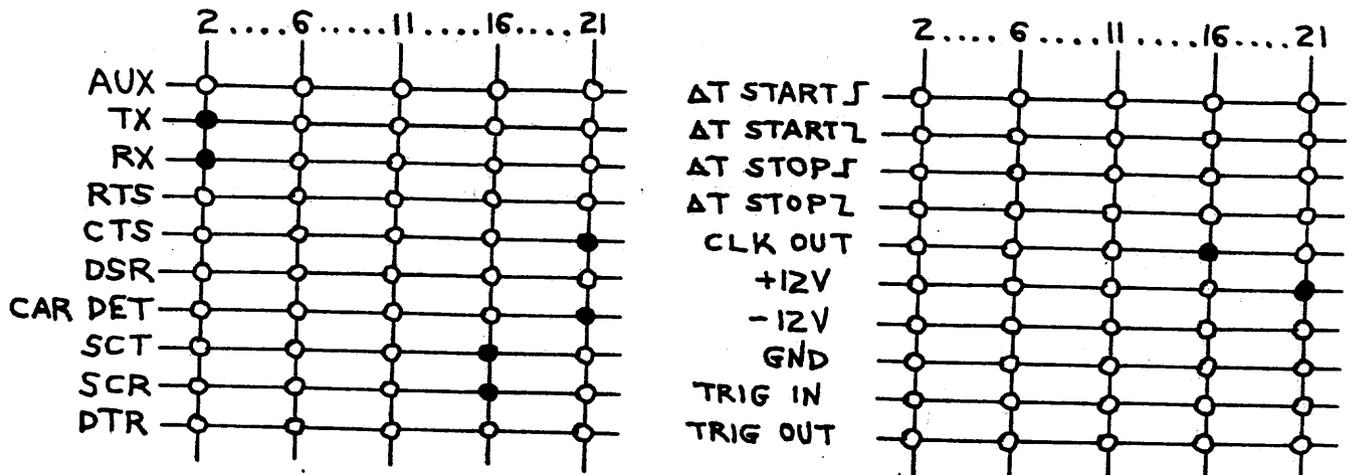

Figure 3. Matrix Board Pin Configuration.
19. The 1640A Matrix Board is configured by means of jumper pins into a loop-around mode whereby the 1640A "talks to itself." An abbreviated SDLC data stream is entered in the transmit (TX) buffer from the keyboard. As this SDLC message is transmitted, the 1640A computes the Frame Check Sequence (FCS) characters and inserts them in the FCS field of the transmitted data frame. The received (RX) data is then checked to verify that proper FCS characters were generated by the 1640A. ERROR triggering is used to verify that no FCS errors occur (if TX FCS = RX FCS, then no trigger). Also, this test verifies flag recognition and zero insertion/deletion functions.
- a. Insert pins in matrix as shown in figure 3. Remove RS-232 cable from rear of matrix.